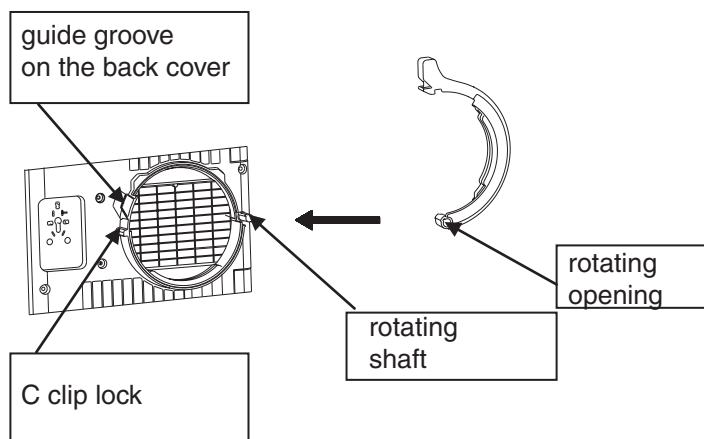

fig. 3
- 2 Rotate the rotary hole at the end of the buckle onto the rotary shaft on the rear cover and slide the clip on the shaft so that it clicks into the appropriate direction as shown in Figure 3.